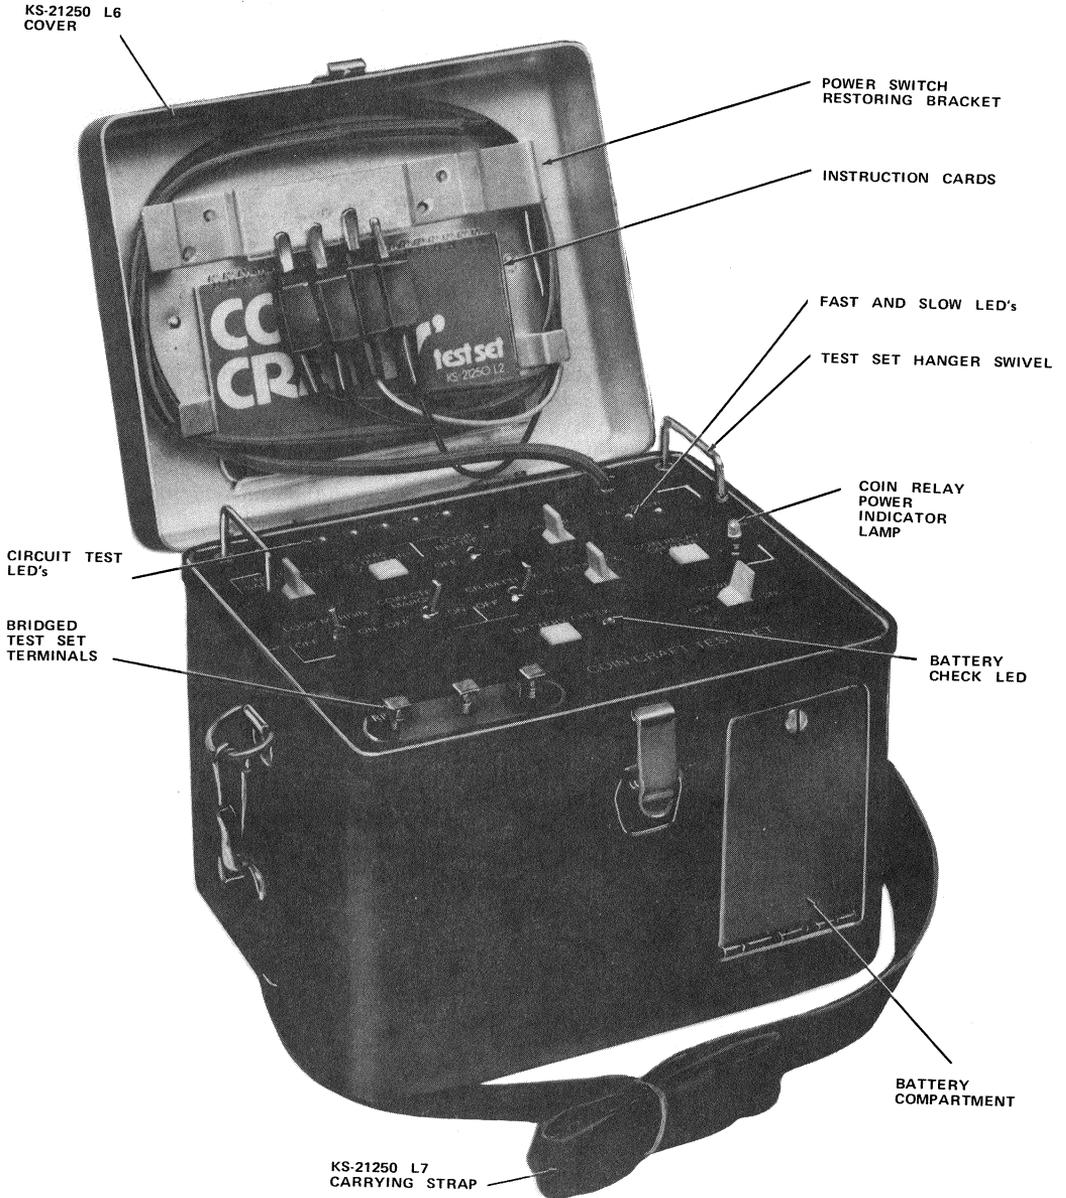

Fig. 1—KS-21250, L2 Coin Crafts' Test Set
1.01 This section provides identification, operation, and maintenance for the KS-21250, L2 Coin Crafts' Test Set (Fig. 1).